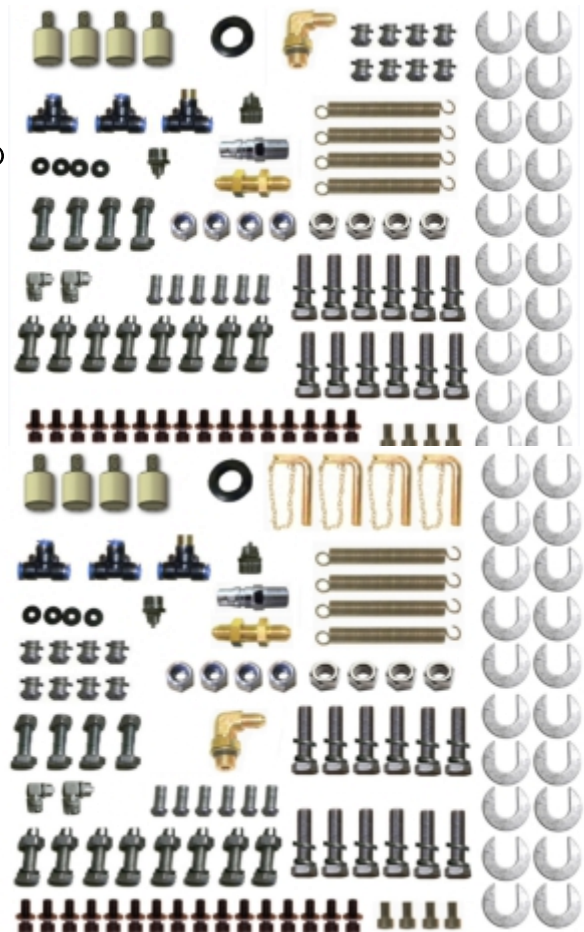

Fig. 11
6. Open the carton of parts and check the parts according to the parts box list (See Fig. 11).